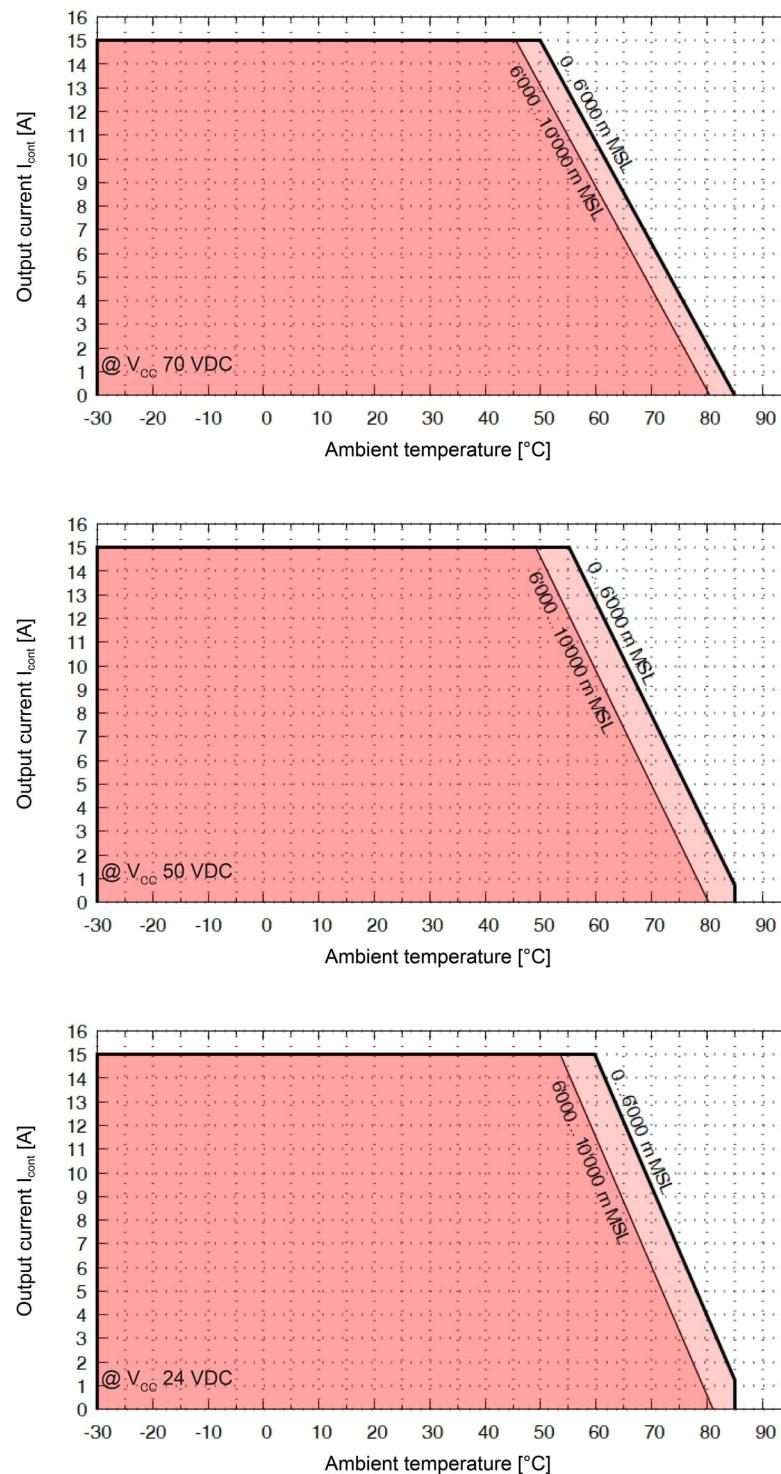

Figure 2-2 Derating of output current
| | | Extended range [a] | +50...+85 °C; Derating: $-0.429 \text{ A}/\text{°C}$ (→Figure 2-2) Additional derating with inserted extension card: Ambient temperature less 5 °C (→Figure 2-2) [d] |
- [d] Derating further increases with an inserted extension card. For the actual value, consult →Figure 2-2 and shift the graph horizontally to the left by the specified value.